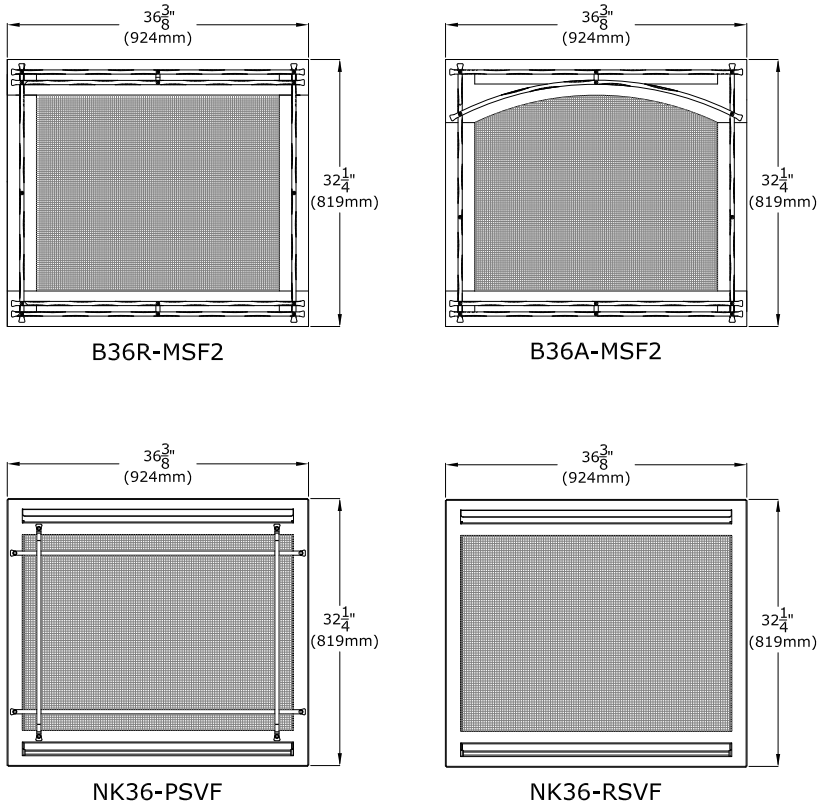

Figure 3.2 - Safety Barriers Group #1
**IMPORTANT:** The B36-PSF2 and B36-FRSF2 (Figure 3.3) are **ONLY** approved for use when the Nordik 36 DV is installed with the #KZK-1510A. The other (4) safety barriers shown in Figure 3.2 are approved in all installation scenarios.